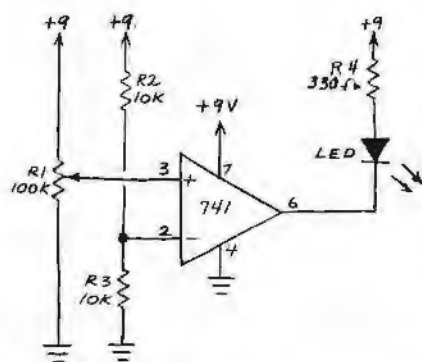

Fig. 2. Schematic of a demonstration comparator circuit.
**Comparator Demonstration Circuit.** Unless you have previously worked with analog comparators, you will probably want to take a few minutes to breadboard the simple demonstration circuit shown in Fig. 2 before trying any of the circuits that will be described later.
When the input voltage is below the reference voltage, the LED glows to indicate that the comparator's output is low (at ground). The LED switches off to indicate the comparator's output is high (at  $+9V$ ) as soon as the input voltage exceeds the reference voltage. With the values shown in Figure 2,  $R1$ 's wiper will be at the center of its rotation when the comparator switches, assuming that  $R1$  is a linear potentiometer.